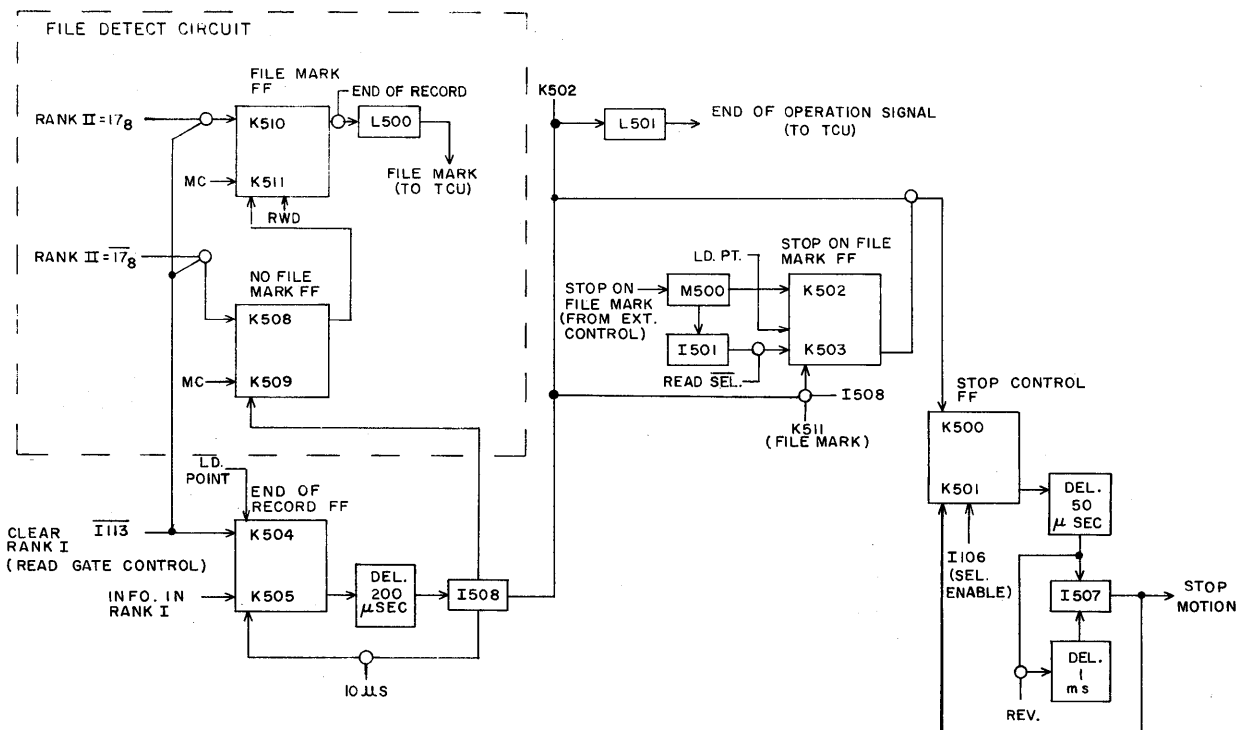
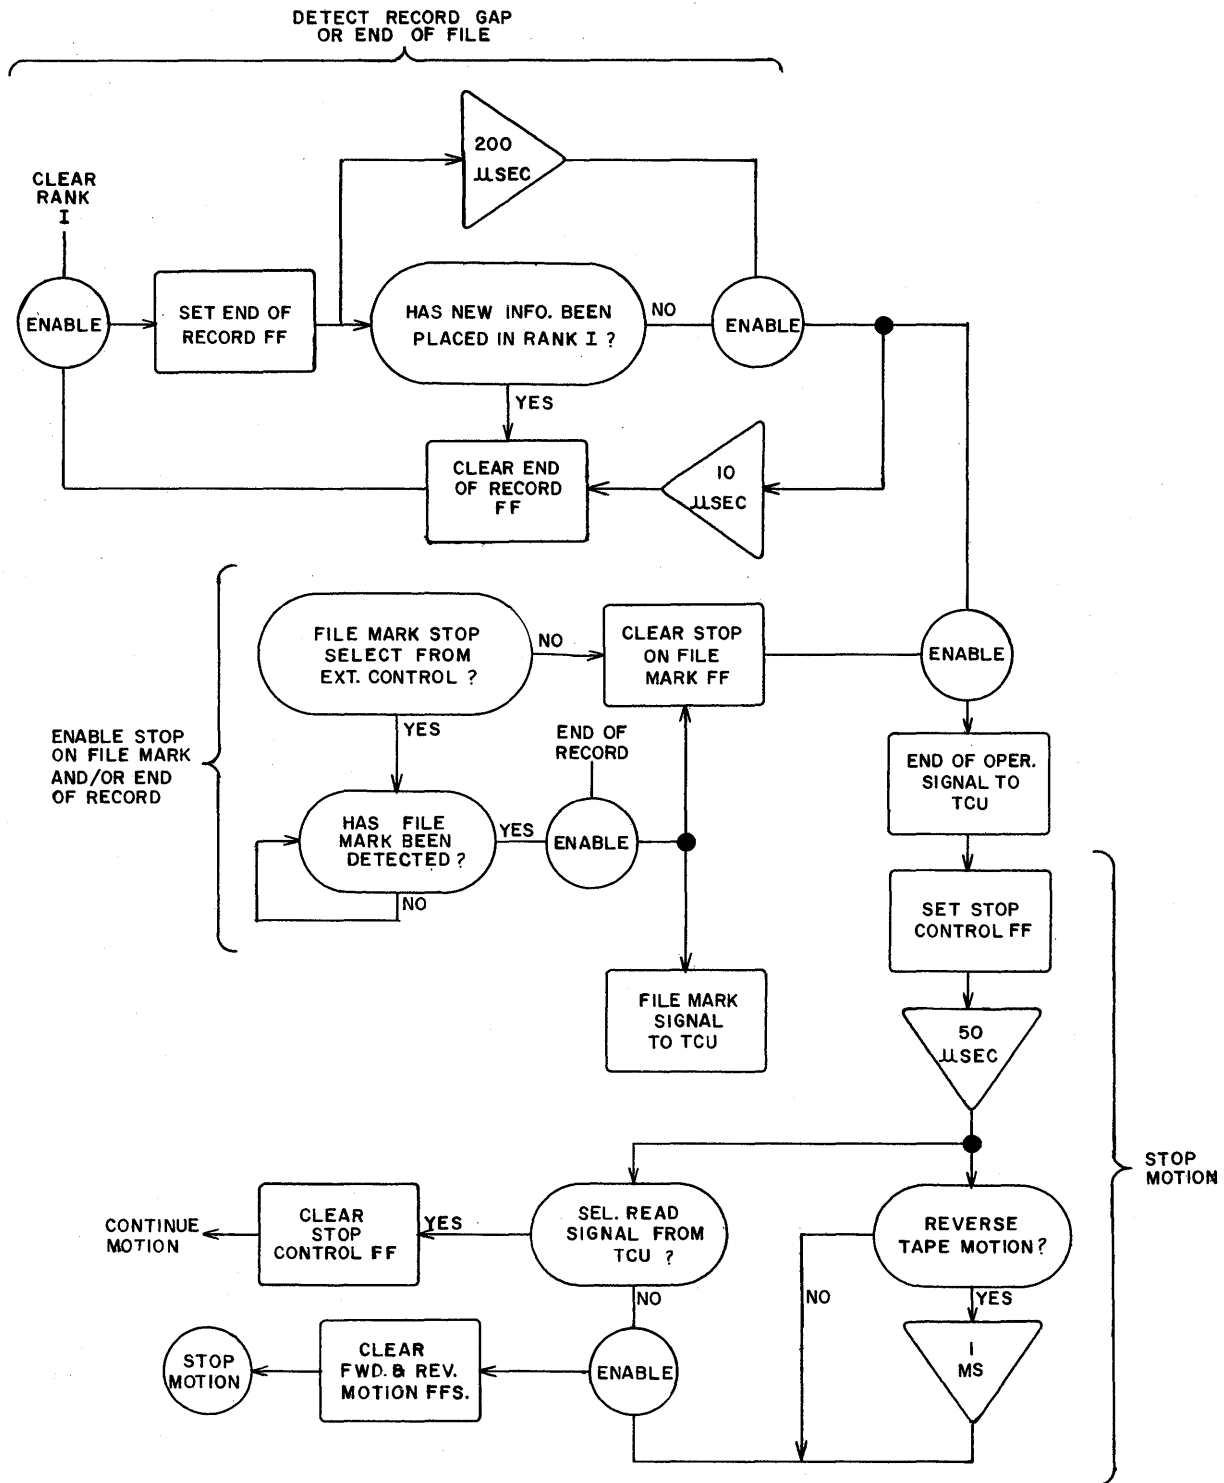

Figure 3-8. File Mark Stop Circuit
Figure 3-9. Operation Flow Chart - File Mark Stop Circuit
The file mark stop circuit (figure 3-8) performs the following functions:
Figure 3-9 illustrates the operation of the circuit. The following paragraphs describe the general sequence of events with respect to figures 3-8 and 3-9.
- 5) Stop control circuit (figure 3-8) produces a stop signal.